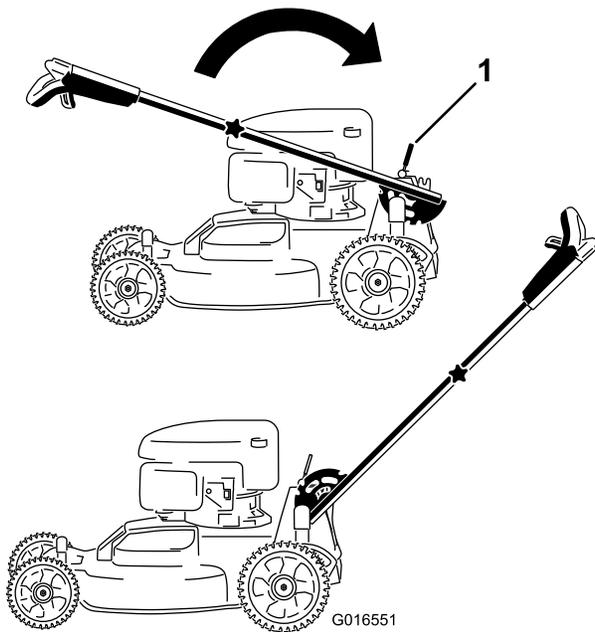

Figure 4
1. Rotate the upper handle so that it nests together with the lower handle (Figure 3), and tighten both knobs on the handle to lock the upper handle in place (Figure 4).